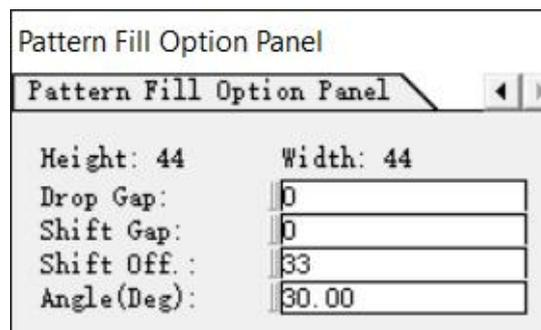

Figure 4-126
(Figure 4-126)
4. Set the value (as shown in Figure 4-126: Enter "33" for Drop Off and "30" for Angle (Deg)).